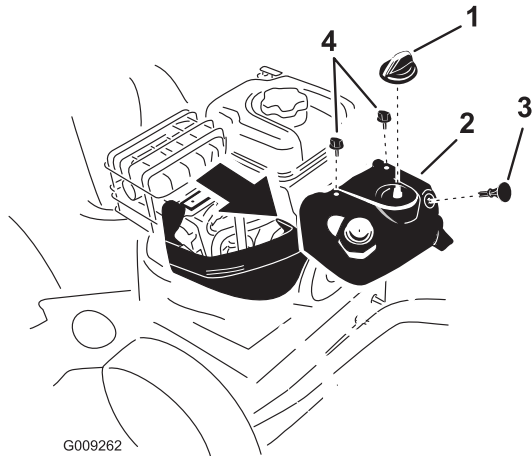

Figure 46
Note: To access the spark plug, you must first remove the upper snow hood (Figure 46).
- Remove the choke knob and the ignition key (Figure 46).
- Remove the 2 screws that secure the upper snow hood to the machine (Figure 46).